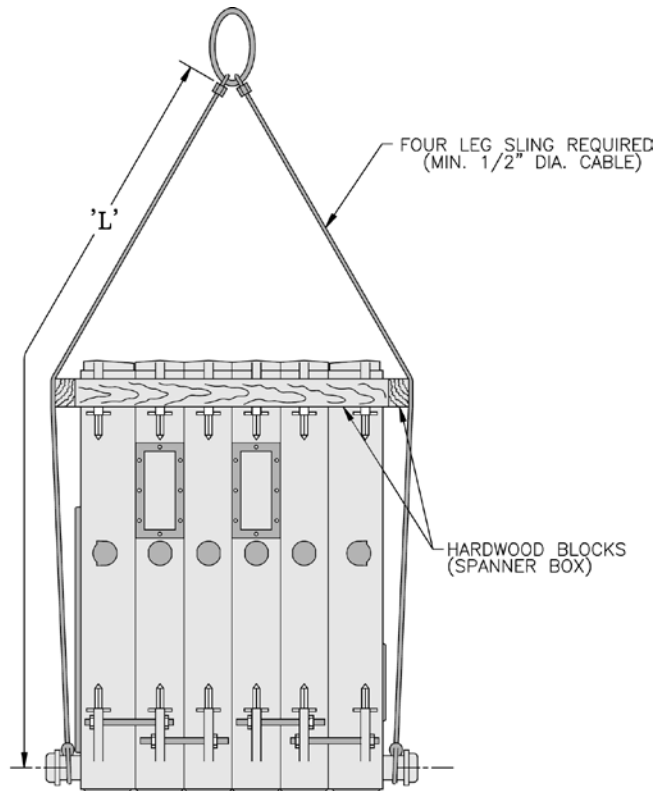

Figure 4: Lifting Instruction
A. FACTORY ASSEMBLED SECTIONS - The assemblage should be set in the proper location as outlined in Section I. Lifting arrangement and weights are given in Figure 4.